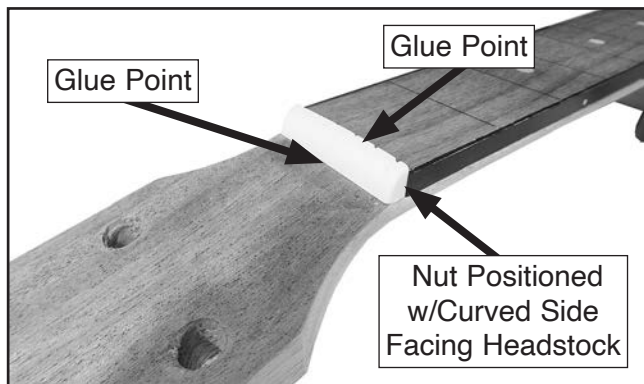

Figure 17. Attaching fretboard to neck.
2. Apply a small amount of glue to top of fretboard and neck. Press nut into position and to secure (see **Figure 17**).